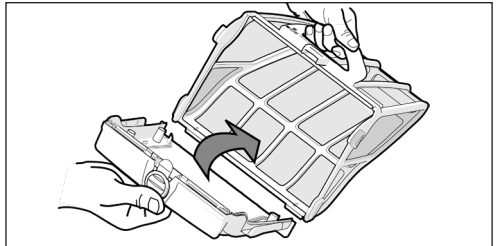

Figure 14. Separate Vanister from Support
6. Separate the filter canister from the filter support. See *Figure 14*.